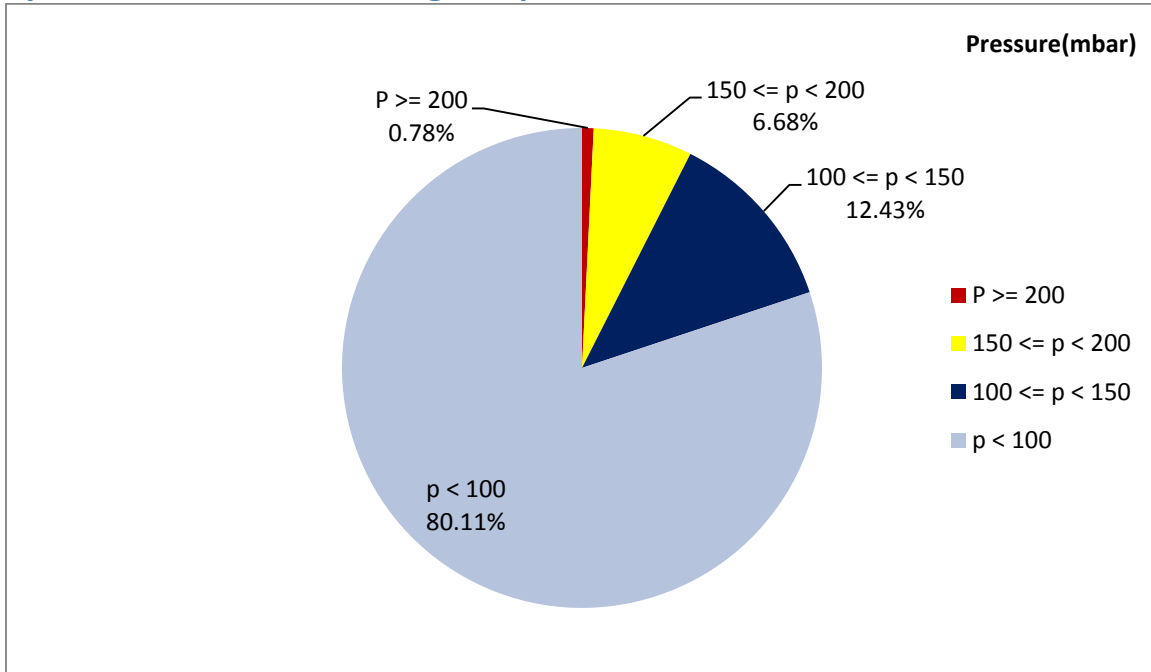

Figure 1- Pressure distribution over the working hours
- As depicted in Figure 1, 0.78% of working time, pressure was above 200 mbar and 7.46% was above 150 mbar.